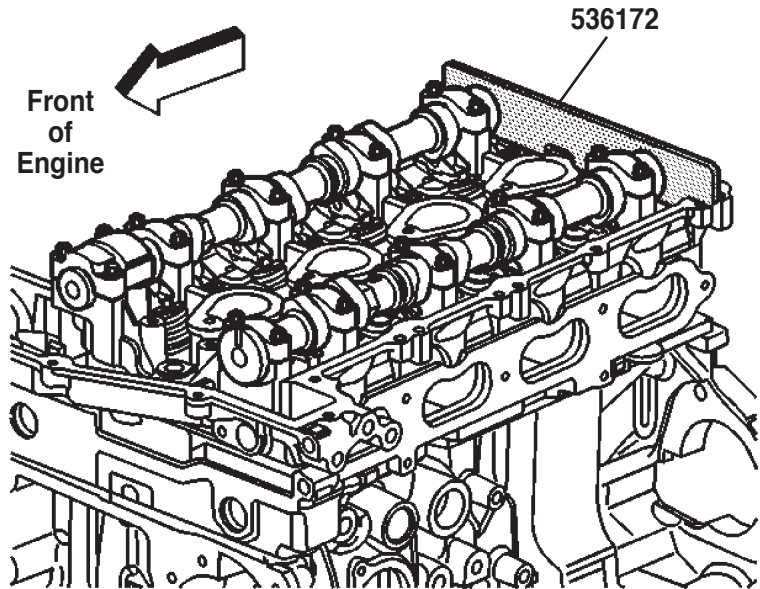

Figure 1
1. Rotate the crankshaft clockwise (CW) until #1 piston is on Top Dead Center (TDC) on the compression stroke.
2. Install No. 536172 camshaft holding tool to the rear of the camshaft. See Figure 1.